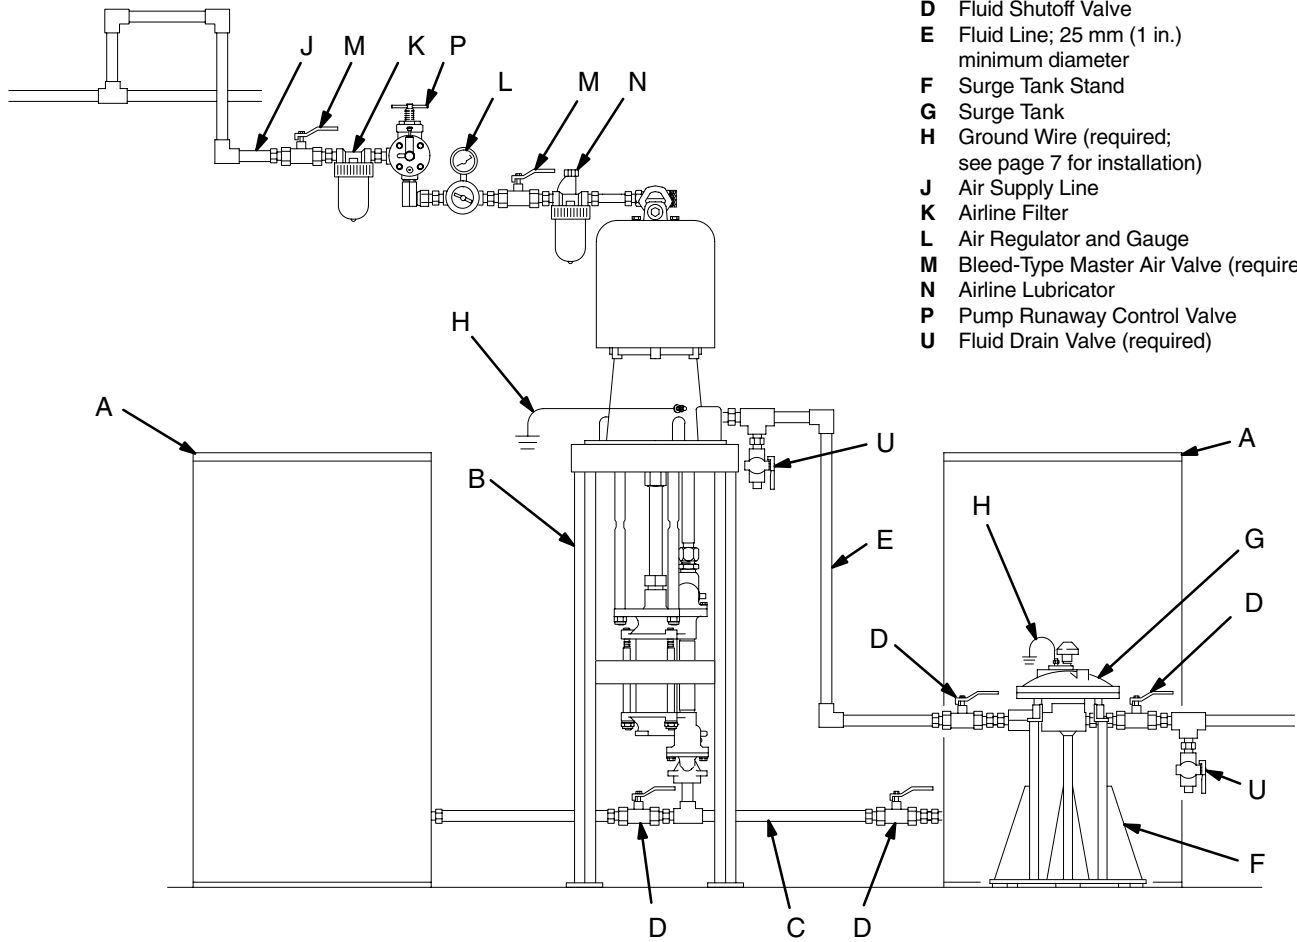

Fig. 4
The Typical Installations shown in Figs. 4 and 5, and the following installation information are only guides. Proper sizing of the pump, accessories and lines is essential to get the maximum performance from your system. Contact your Graco distributor for assistance in designing a system to meet your needs.
This pump can be mounted on a floor stand, cart, wall bracket, or drum. The floor stand shown in Figs. 4 and 5 is Part. No. 220581.
1. The air line lubricator (N) automatically lubricates the air motor to prevent corrosion. See Fig. 4.
2. The bleed-type master air valve (M) relieves air trapped between itself and the motor, when the valve is closed. Install one valve close to the pump, downstream from the air regulator. Install a second bleed valve upstream from all other air line accessories, to isolate the accessories for servicing.
3. The air regulator (L) controls pump speed.
4. The pump runaway valve (P) shuts off the air to the pump if the pump speed exceeds your pre-adjusted setting. Running a pump too fast can damage it.
5. The air filter (K) removes harmful dirt and moisture from the compressed air supply.
6. The air supply line (J) must be large enough to supply the proper volume of air to the motor.